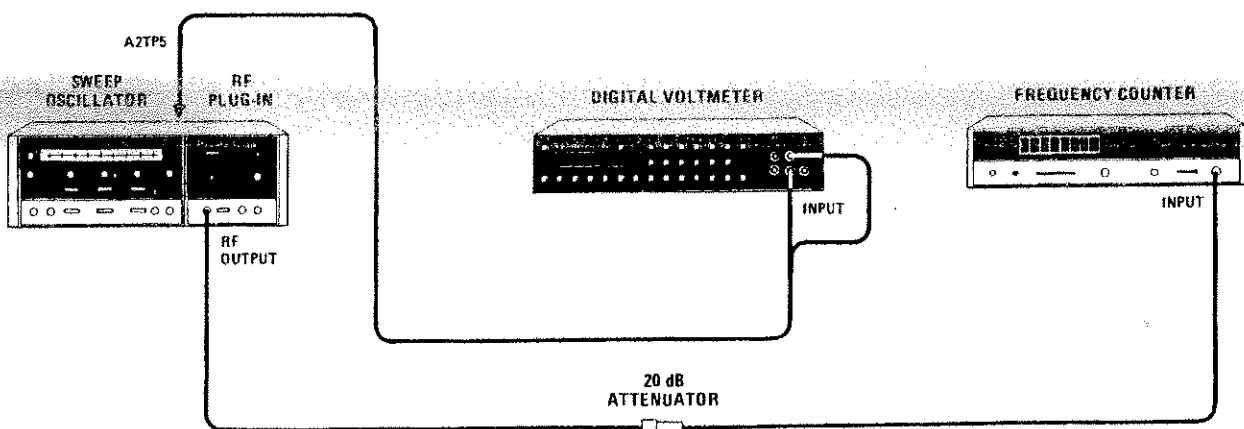

Figure 5-2. YIG Driver Frequency Adjustments Test Setup
1. Connect equipment as shown in Figure 5-2.
- a. Connect equipment as shown in Figure 5-2. (Digital voltmeter is connected to 8620C A2TP5.)